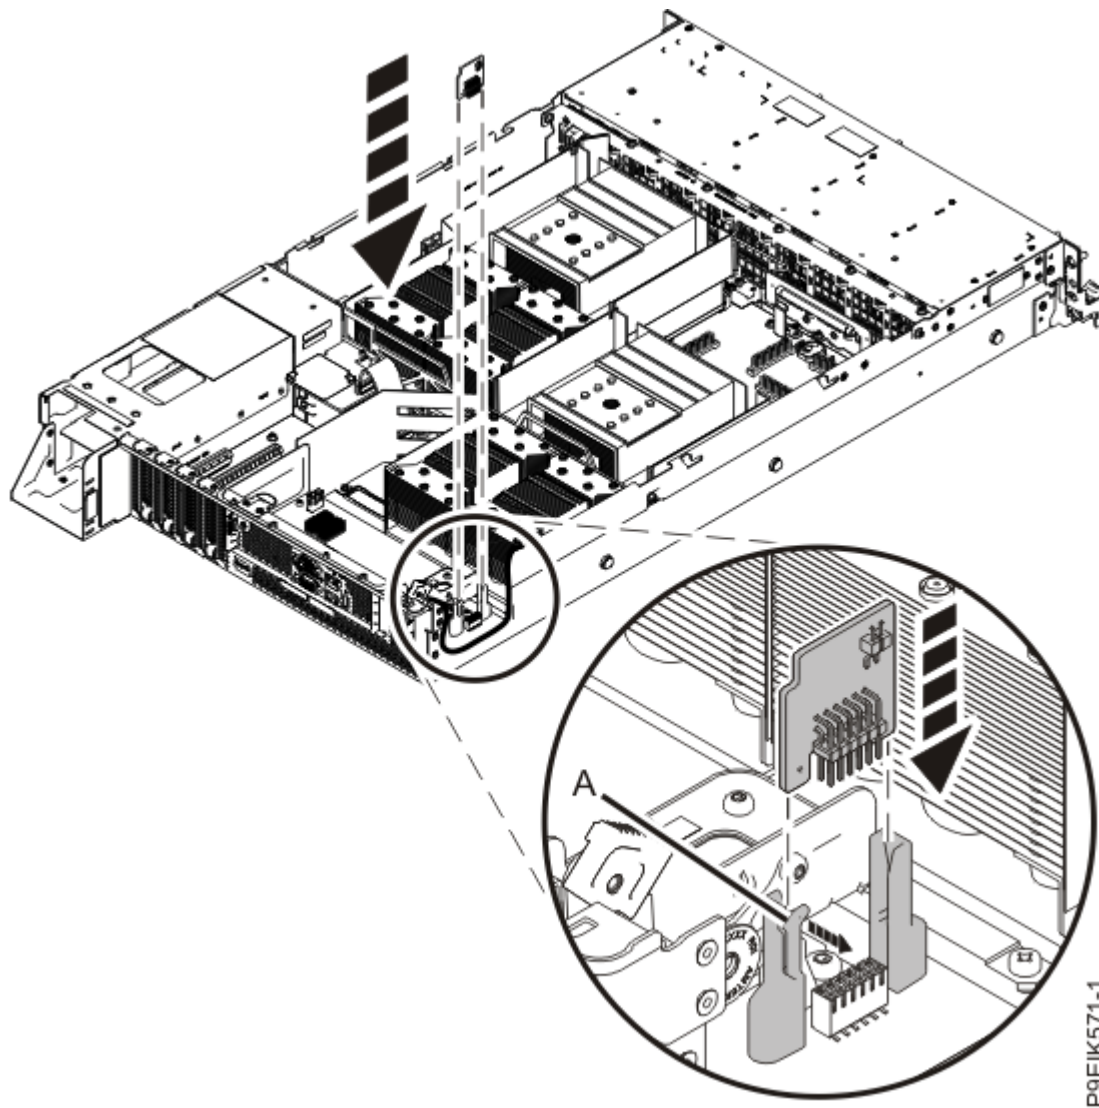

Figure 98. Replacing the trusted platform module
2. Align the trusted platform module with the plastic guides as shown in Figure 98 on page 118, and push the trusted platform module straight into the system backplane, until it is fully seated and the lever **(A)** clicks into place.